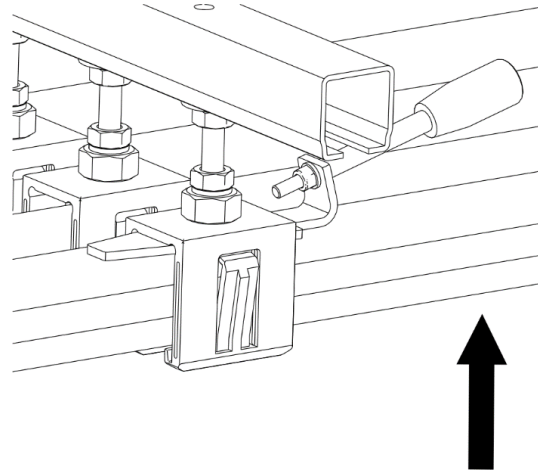
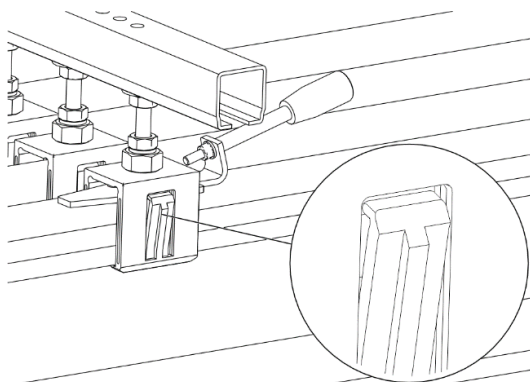
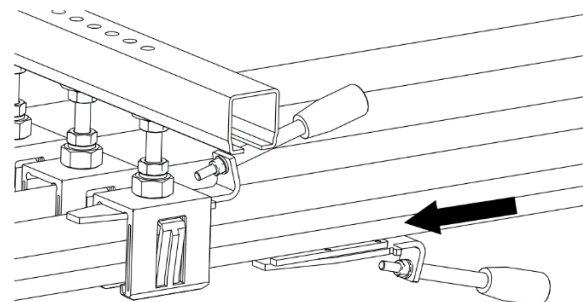

Fig. 4: Press the conductor rail against Tool 1 or against the hanger clamp
Fig. 5: The retaining clamp of the hanger clamp bends up
Fig. 6: Insert Tool 2 on the open side of the conductor rail
- Press the conductor rail against Tool 1 or against the hanger clamp, respectively (see Fig. 4). At the same time, insert Tool 2 on the open side of the conductor rail (see Fig. 6). The retaining clamp of the hanger clamp bends up (see Fig. 5).